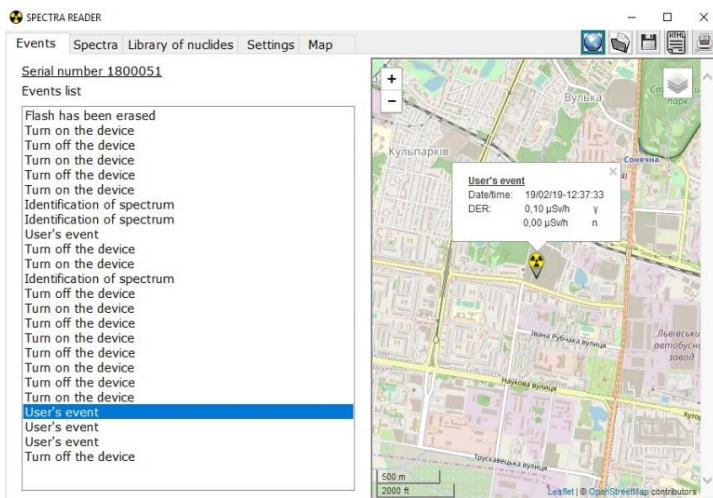

Figure 39 – Event display on the map
- display the event on the map, according to the coordinates where it was saved (if the coordinates have been added) (Fig. 39).